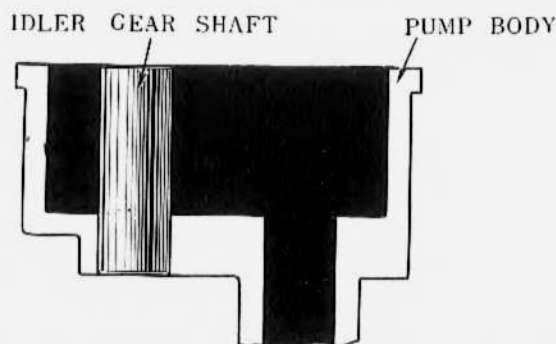

Figure 38 – Proper Installing of Idler Gear Shaft
(1) Idler gear shaft is press-fitted to pump body. A press must always be used to remove or install the shaft in order to prevent damaging the pump body. When installing, press in the shaft until its end is flush with the surface of pump cover flange (Fig. 38).
(2) To remove main gear from pump shaft, use a universal puller. To install, place key in position and force gear onto the shaft with a press until the end face of gear is within 0.5 mm of pump shaft end.